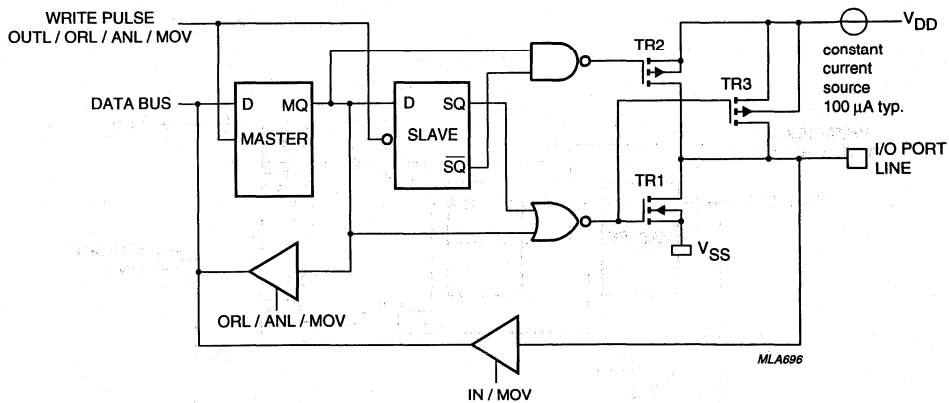

Fig.11 Standard output with switched current source.
The standard port configuration is illustrated in Fig. 11. When a logic 0 is written to the master/slave flip-flop, TR2 and TR3 are both in the OFF condition. TR1 turns ON and drives the output to  $V_{SS}$ .
- Option 1 Standard Port; quasi-bidirectional I/O with switched pull-up current source of 100  $\mu$ A (typ.) and p-channel booster transistor TR2. TR2 is only active for 1 clock cycle during LOW-to-HIGH transitions (see Fig. 11).